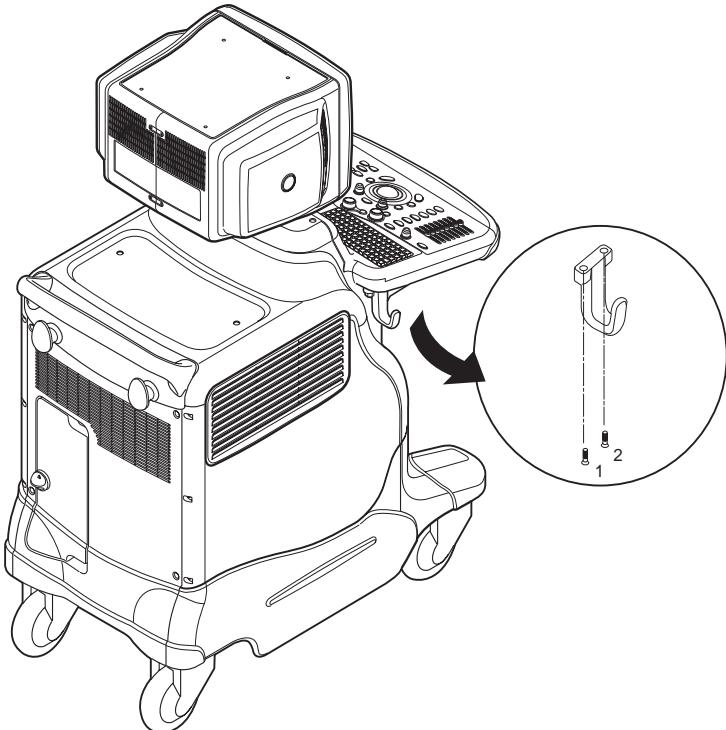

Figure 8-23 Removing ECG Cable Hook
- 2.) Unscrew two(1-2) screws from the bottom of the keyboard. Refer to Figure 8-23.